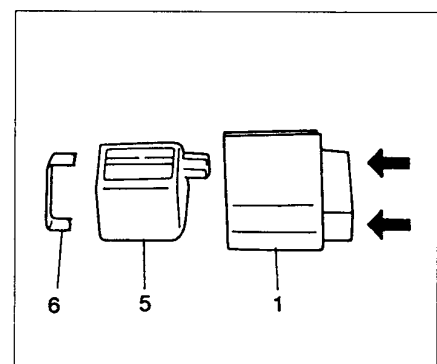

Fig. 3-12
6. Remove vinyl tape (6) which fixes battery (5) on the waterproof cover (1), then push out the battery from the cover (1). (Fig. 3-12)